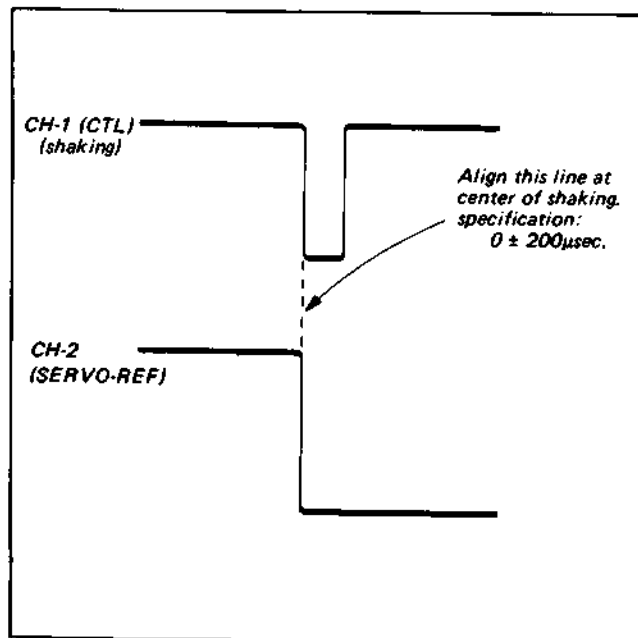

Fig. 4-7. Tracking control center adjustment
- (1) Set the tracking control at the center clickstop.
- (2) Playback the alignment tape.
- (3) Connect CH-1 of an oscilloscope to TP7 (Pin 17 of IC001) and CH-2 to TP6. (Pin 13 of IC003)
- (4) Adjust RV010 so that the negative going of the CH-1 waveform is in phase with that of CH-2 (see Fig. 4-7).